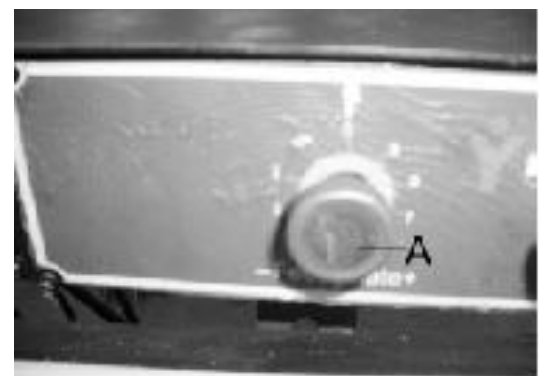

Fig.11
The cutting pressure of the saw arm has been set at the factory and should not need further adjustment. If adjustment should ever become necessary, lower the saw arm to the horizontal position. Loosen locknut (A) Fig.11. until the pressure is increased or decreased.